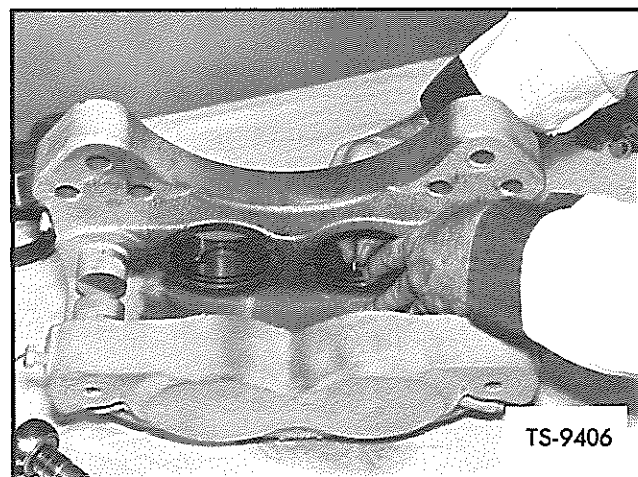

Fig. 25. Reinstall Packings in Grooves
18. Reinstall cylinder bore packings in grooves. Be careful not to damage packings. Press into grooves as shown in Figure 25.